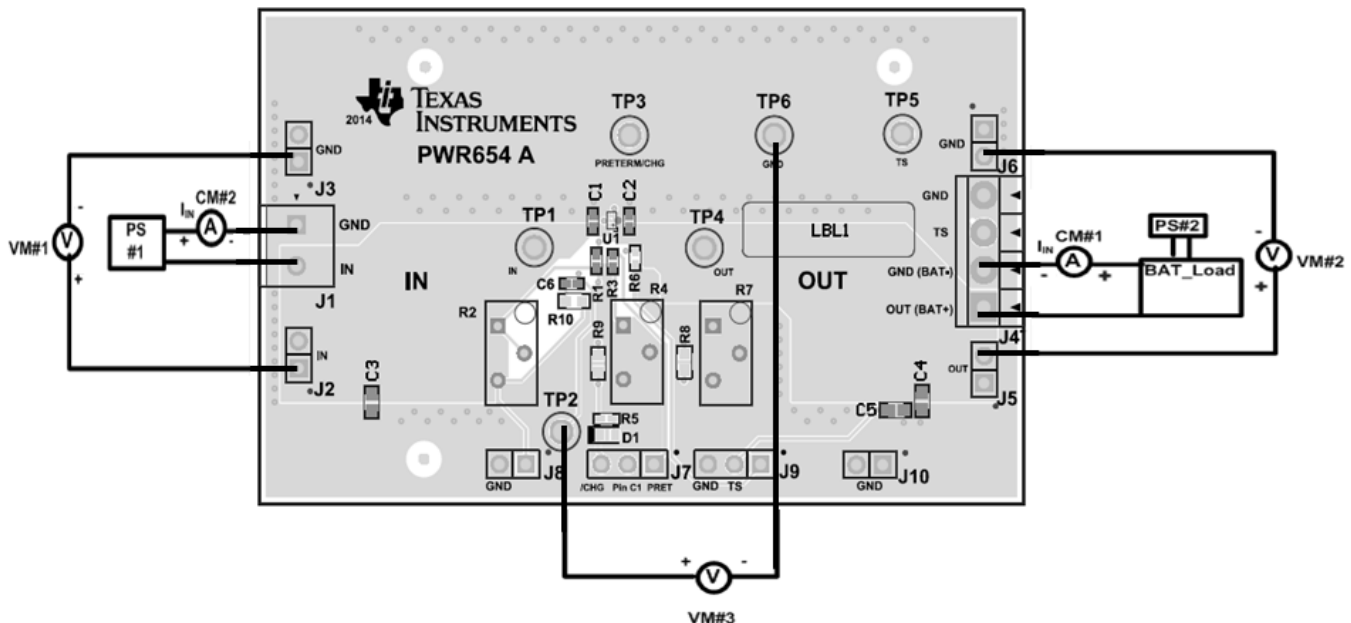

Figure 3. Test Setup for bq25100 EVM (PWR654)
9. After the preceding steps are accomplished, the test setup for bq25100EVM-654 is as shown in Figure 3.